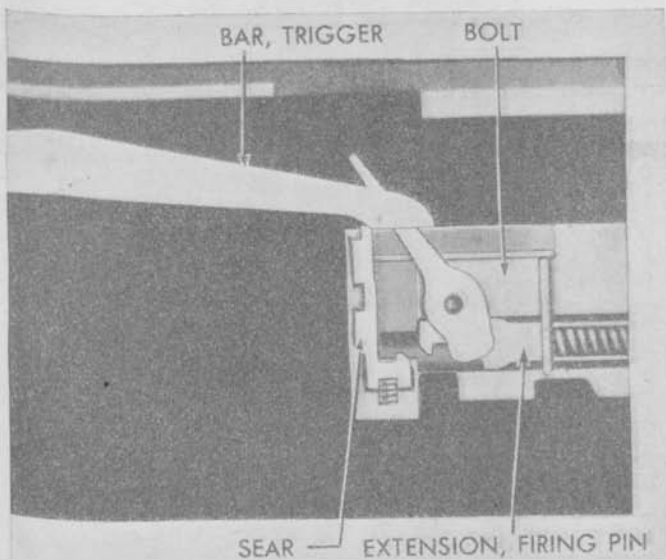

FIGURE 39.—Action of trigger bar on sear in continuous fire.
■ 75. AUTOMATIC FIRING.—For automatic firing the trigger is pressed and held down. The sear is depressed as its tip is carried against the cam surface of the trigger bar by the forward movement of the bolt near the end of the counter-recoil stroke. (See fig. 39.) The notch in the bottom of the sear releases the firing pin extension and the firing pin,